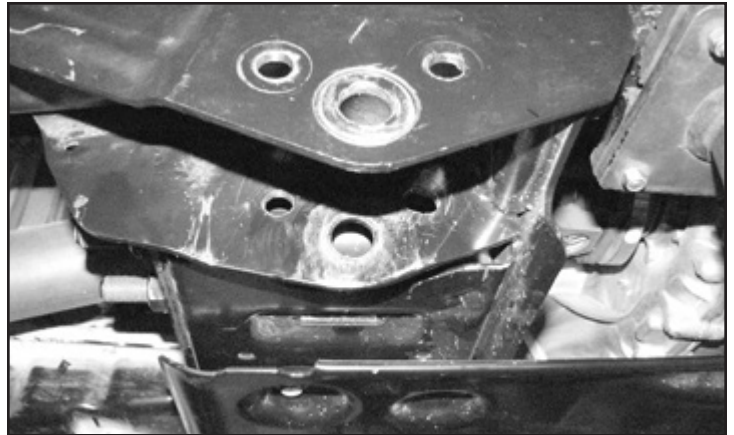

FIGURE 32 - STEP 37
37. Remove the factory crossmember and skid plate that is mounted between the factory radius arm pockets. Retain Hardware. **SEE FIGURE 32**